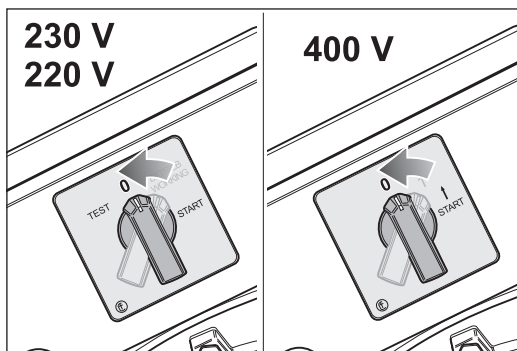

Fig. 31 To switch off the machine turn the switch button to position -0-.
- 2 Turn the switch button to position -0- (fig. 31).